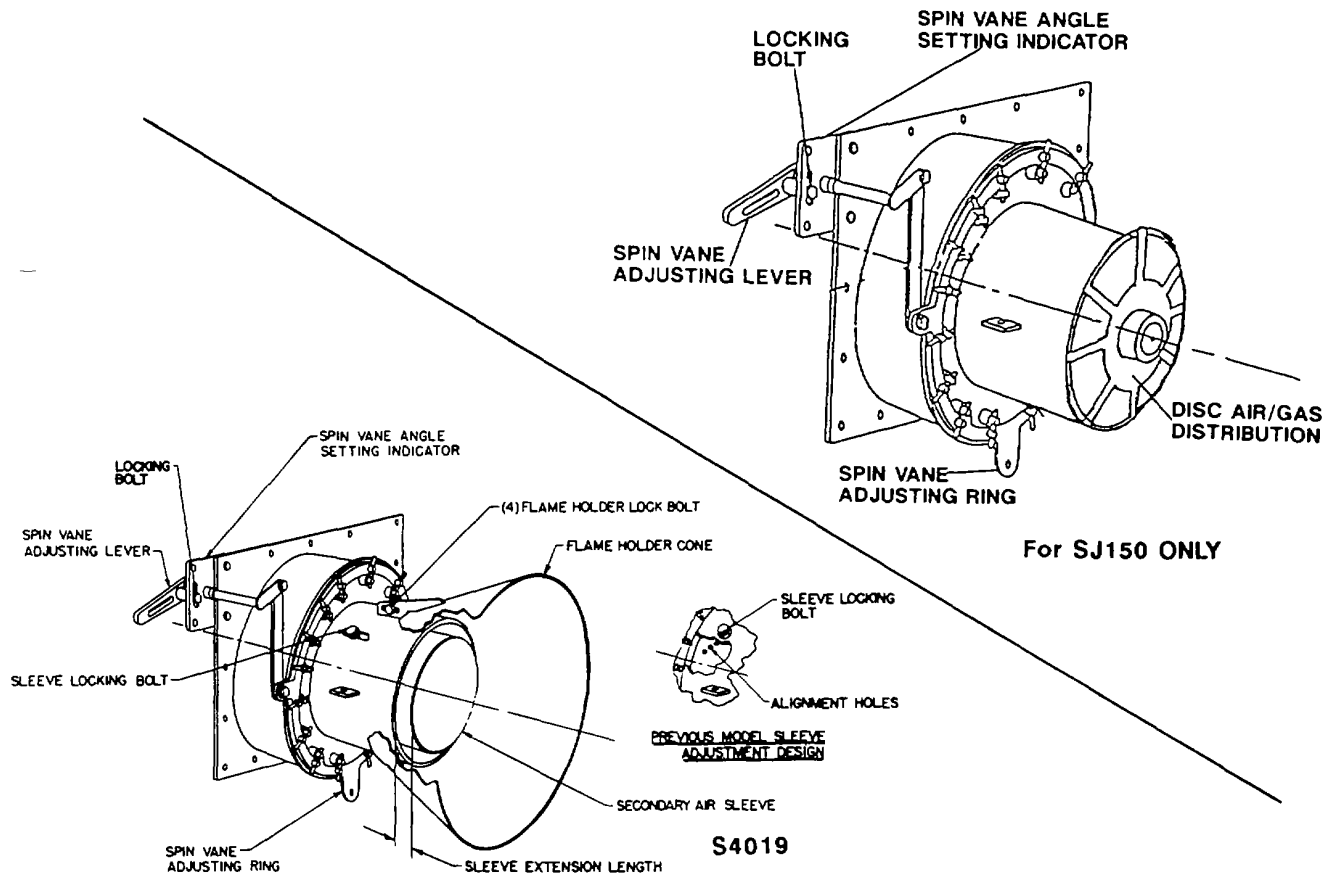

Fig.16 - Schematic representation of the Secondary Air Sleeve adjustment and Spin Vane Adjusting Ring
3. In the front of the burner is a slot (see fig. 16) to adjust the sleeve:
- b. Relocate the sleeve to the desired extension distance. (3/4 inch is a nominal setting.) The extension distance is the distance the sleeve is protruding out the end of the burner (see fig. 16).